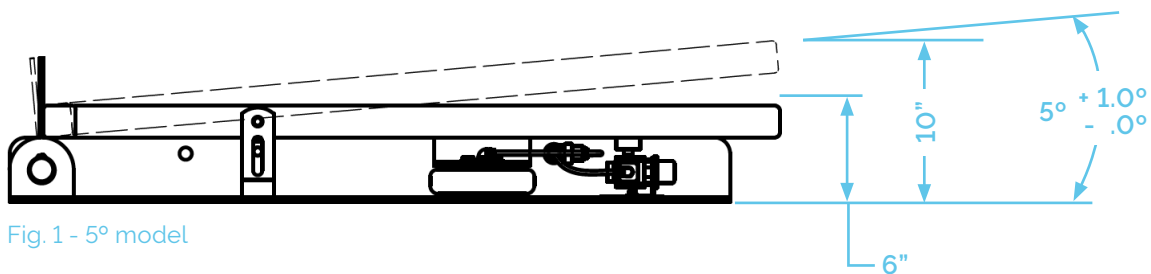

Fig. 1 - 5° model
- Tightening torque on the blind nut is 15-20 ft.-lbs (See Fig. 1)